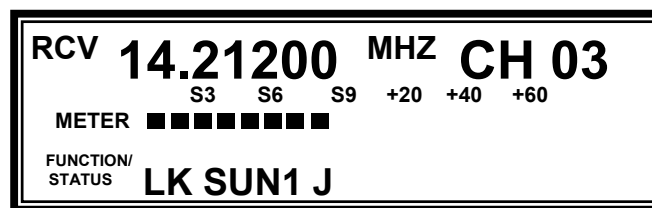

Figure 7.3.4.19 ALE Point-to-Point Call - Called Station Display - After Linking
8. This Link will remain intact for up to approximately two (2) hours. If no activity occurs with this time period, the RT-9000B will transmit a "Link Terminate" message and abandon the Link. Any activity within the two (2) hour interval resets the timer to its original time limit. The transmission information displayed in Figure 7.3.4.19 will remain intact until more recent ALE activity overwrites it or the operator leaves ALE mode.
The Operational Display shown in Figure 7.3.4.19 indicates the following information: 1) Operating frequency and Channel Number, 2) 'LK' = Link established, 3) 'SUN1' = station CALL ID this station is Linked with, and 4) 'J' = Link Quality Analysis (LQA) value of the Linking frequency. The table shown in Figure 7.3.4.18 gives Displayed Link Quality Analysis (LQA) Value vs. SINAD conversion values.